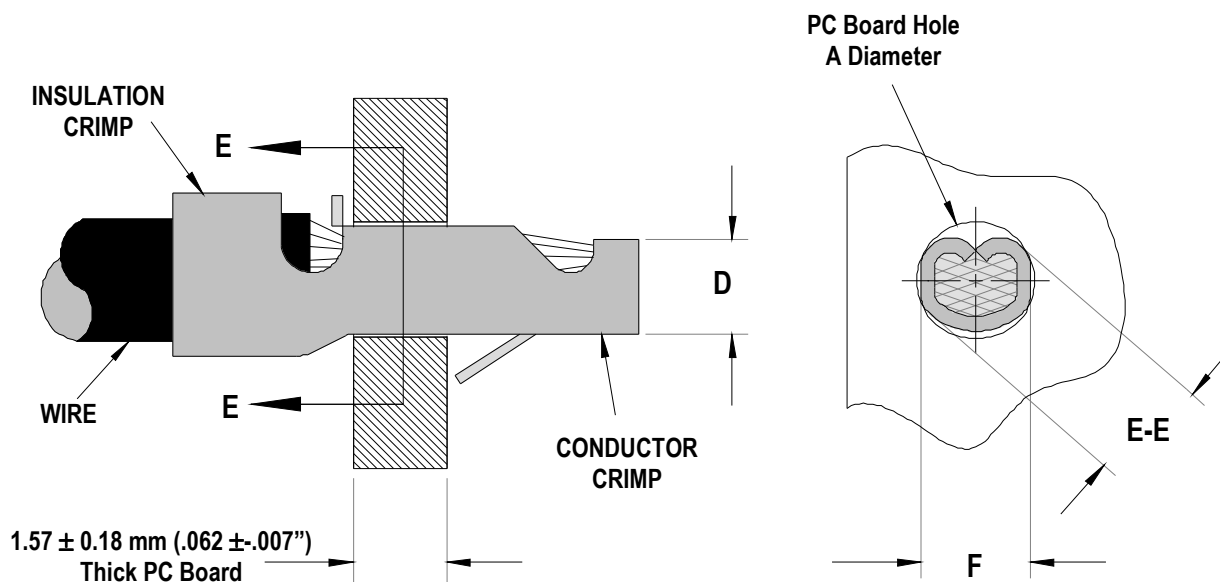

Figure 1
After crimping, the conductor profiles should measure the following (See Figure 1).
1. The Conductor crimp (D dimension on Figure 1) should be set at the maximum height to contain all wire strands, meet minimum pull, and fit into the PCB Hole. The insulation and barrel crimps are adjustable, by the cams (rings) on top of the Mini-Mac ram. The conductor crimp height is not adjustable. Shimming may be required of the conductor punch to optimize this for different wire types.